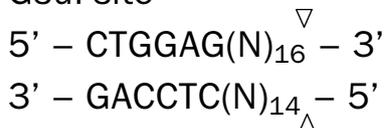

Fig. 2. Sfil and Gsul recognition sites.
Commentary: The adapters contain asymmetric sites for SfiI restriction (SfiA and SfiB; Fig. 2). Being incorporated at the 5' and 3' ends of the cDNA the sites allow directional cloning of the cDNA library. After digestion with SfiI restriction endonuclease and size fractionation, synthesized cDNA can be ligated into an appropriate SfiI-digested vector. Since SfiI digestion cuts off the excessive parts of flanking adapters, it also makes the resulting cDNA perfectly suitable for SOLiD or Illumina sequencing.
- CDS-4M adapter contains a poly(T) part built of thymidines interspersed with other nucleotides. The adapter works well for cDNA synthesis and allows 454 sequencing through the modified poly(A:T) tails of cDNA.
- CDS-Gsu adapter contains a Gsul recognition site (Fig. 2) just upstream of the unmodified poly(T) sequence. Gsul is a type II restriction enzyme that cuts cDNA within the poly(A) tail, reducing its length so that all subsequent sequences start with a shorter run of thymidines.